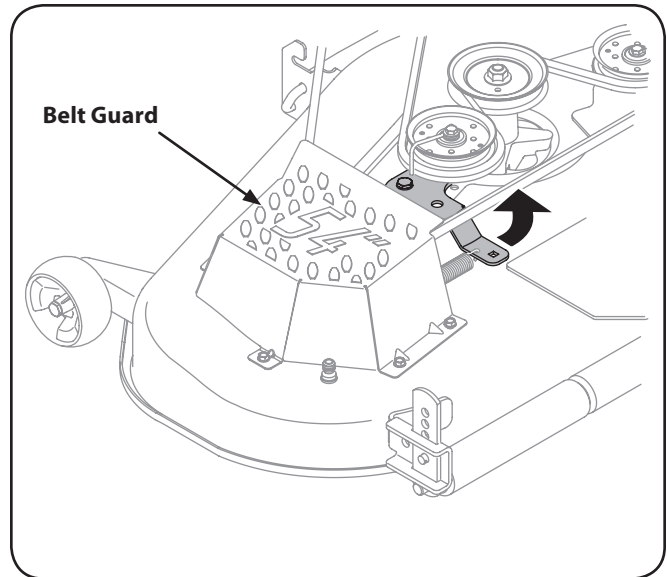

Figure 7-2
**NOTE:** If there is too much tension on the belt for it to be easily removed from the electric PTO clutch, carefully insert a  $\frac{3}{8}$ " drive ratchet wrench (set to *loosen*) into the square hole found in the left-hand deck idler bracket and pivot it toward the tractor's right side to relieve tension on the belt. See Figure 7-2.